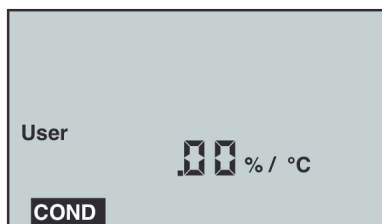

Figure 3
- b. With "User" selected, press CAL / MCLR . If the display does not show .00%/°C, hold MR long enough to bring the tempco to .00%/°C (see Figure 3).